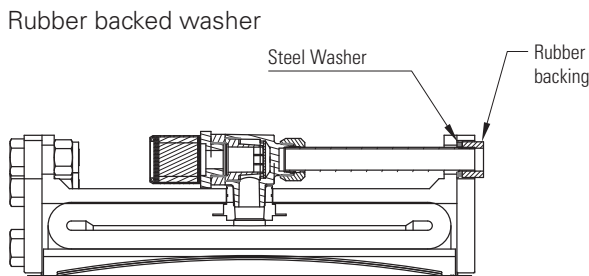

Figure 9
- 2.6.5 Install the air connection gaskets onto the air tubes. The metal backup washer is to be positioned toward the elbow (away from the spider). See Figure 9.